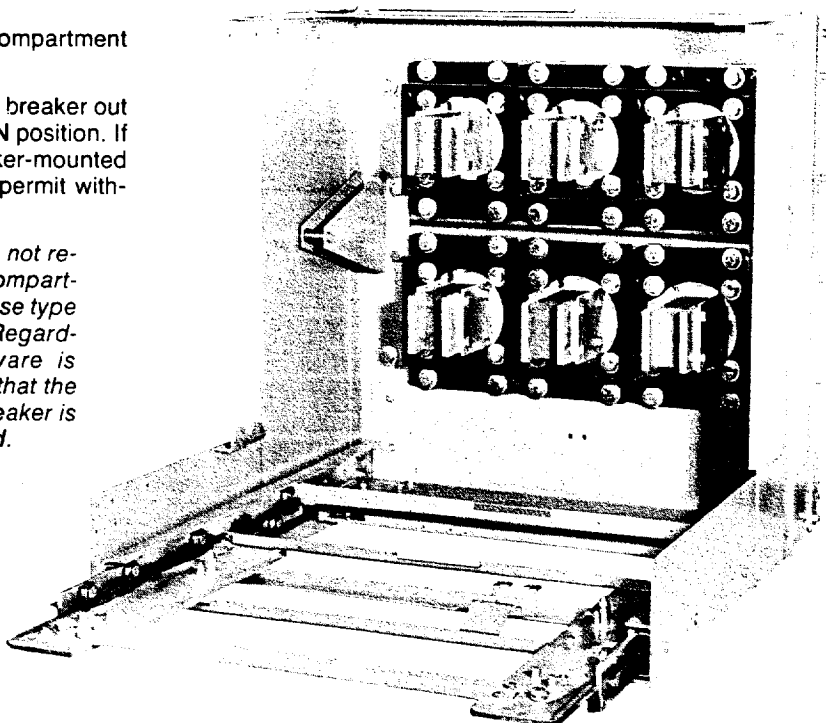

Fig. 3 AKR drawout substructure
5.4 CODE B (AKR SUBSTRUCTURE) (Figs. 3, 4)